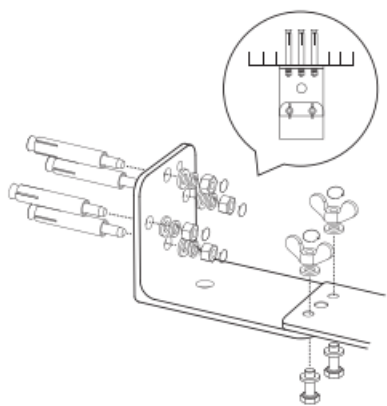

Figure2: Min. distance to floor, ceiling and wall.
4. The distance between the bottom edge of the appliance and the floor must be at least 1.8 M. See figure 2.
5. There must be a distance of at least 0.25 M between the appliance and the ceilings, roofs or other covers. See figure 2.
6. There must be a distance of at least 0.5 M at each side between the appliance and walls or the like. See figure 2.